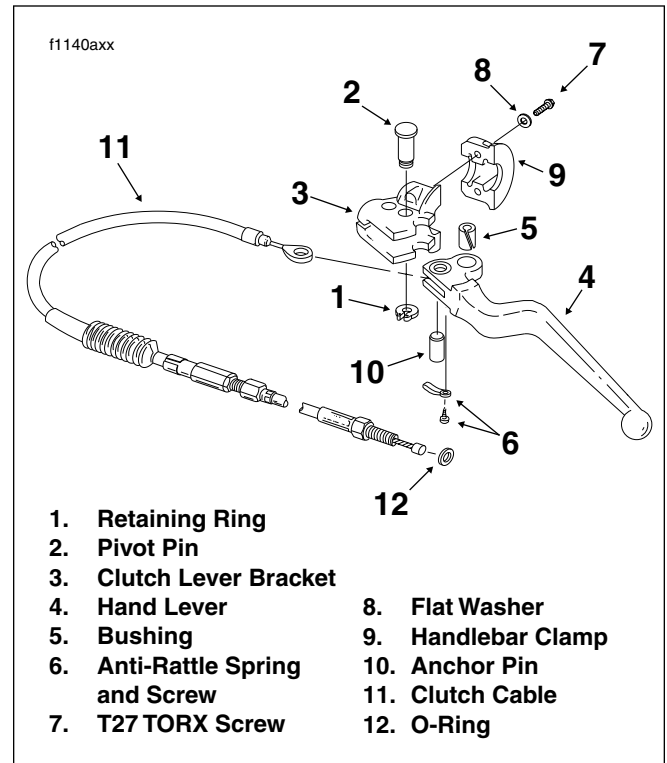

Figure 2-114. Clutch Hand Lever Assembly
7. Remove anchor pin and clutch cable eyelet from clutch hand lever. See Figure 2-114.
1. See Figure 2-114. Insert clutch cable eyelet into groove of clutch hand lever aligning eyelet with hole without bushing. Insert anchor pin through lever and eyelet.
4. If removed, install two T27 TORX screws (with flat washers) to secure handlebar clamp to clutch lever bracket. See Figure 2-114. Starting with the top screw, tighten screws to 60-80 **in-lbs** (6.8-9.0 Nm).